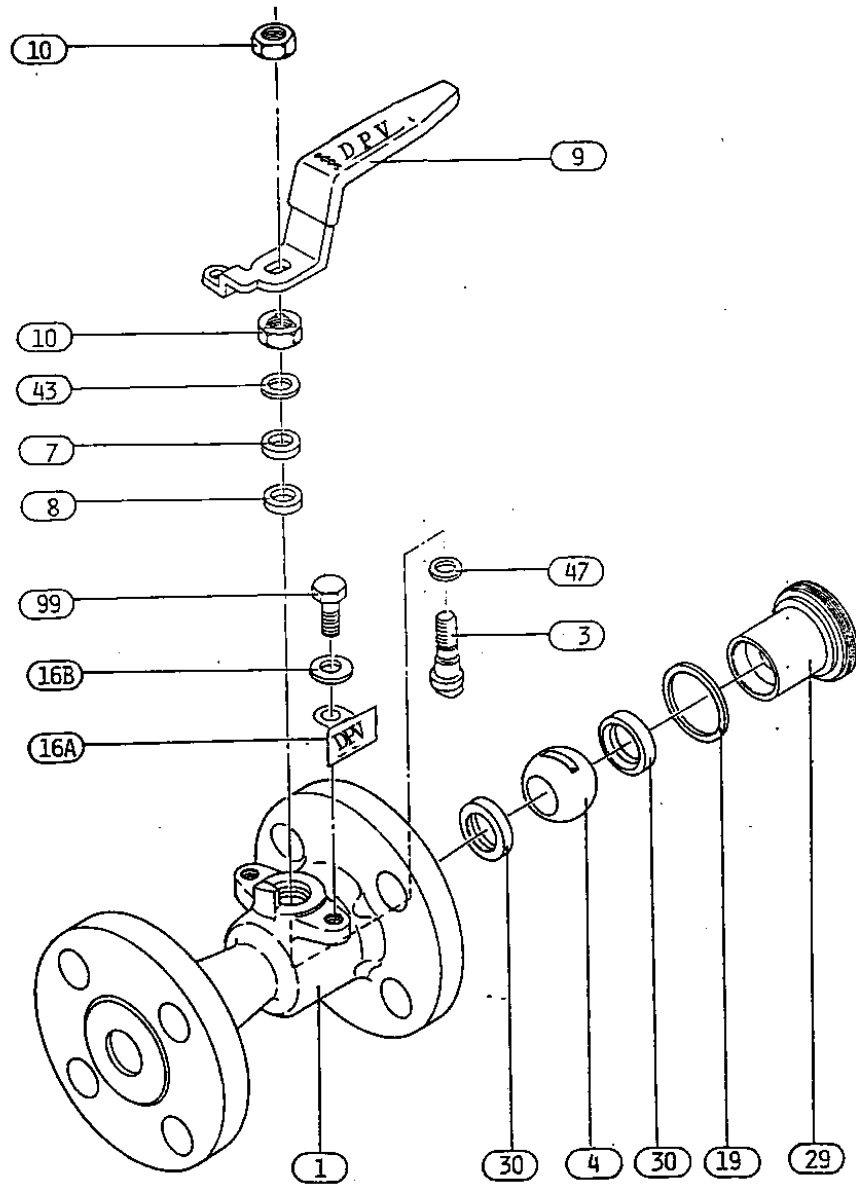

Fig. 1. Disassembly illustration of ½" to 4" valves
**Disassembly of valves; size ½” to 4” (Fig. 1)**
#### 6.7 Re-assembly of valves: Size ½” to 4” (Fig. 1)